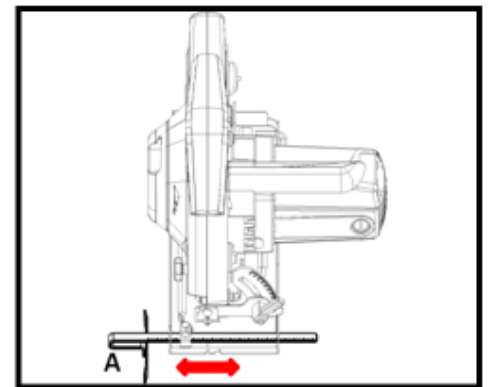

Fig. 17
The guide ruler (A) is used on the right of the blade. Fig.17